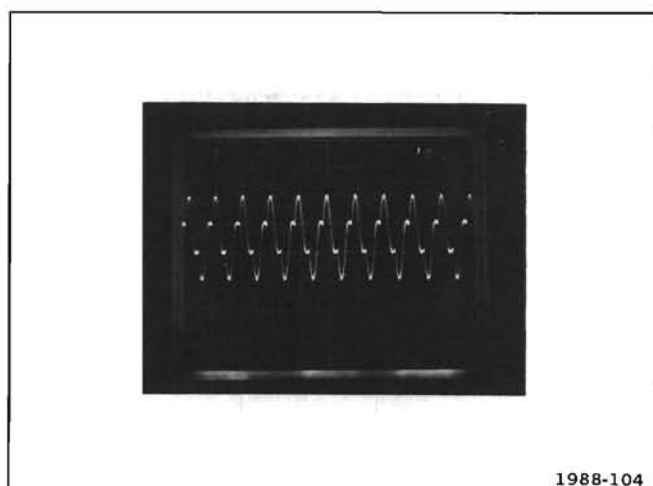

Figure 4-8. Current waveform at T1230 for normal inverter operation at line voltage of 115 volts.
5. If a burst waveform was obtained in part 4 above, check for stable inverter operation when the line input voltage is increased to about 85 volts. Figure 4-8 shows
the current waveform at T1230 for normal inverter operation at a line source of 115 volts. (NOTE: The test oscilloscope horizontal sweep rate has been changed to about 50 microseconds/division for Fig. 4-8.)